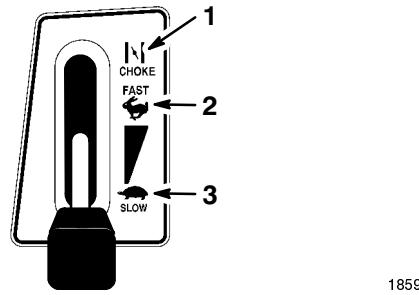

Figure 7
4. Move the throttle lever to “CHOKE” (Fig. 7).
6. After the engine starts, slowly move the throttle lever to “FAST” (Fig. 7). If the engine stalls or hesitates, move the throttle lever back to “CHOKE” for a few seconds. Then move the throttle lever to “FAST.” Repeat this as required.
1. Move the throttle lever to "FAST" (Fig. 7).